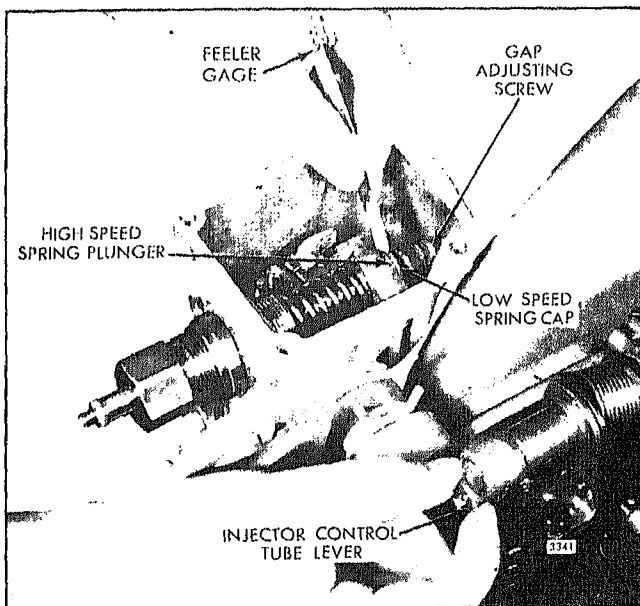

Fig. 1 - Adjusting Governor Gap
6. Check the gap between the low-speed spring cap and the high-speed spring plunger with a .0015" feeler gage. If the gap setting is incorrect, reset the gap adjusting screw (Fig. 1). If the setting is correct, the .0015" movement can be seen by placing a few drops of oil into the governor gap and pressing a screw driver against the gap adjusting screw. Movement of